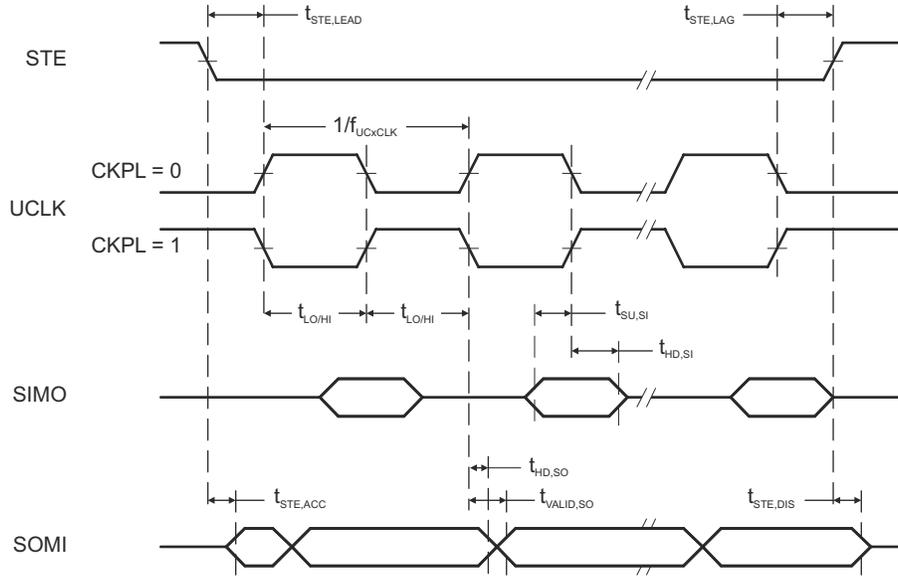
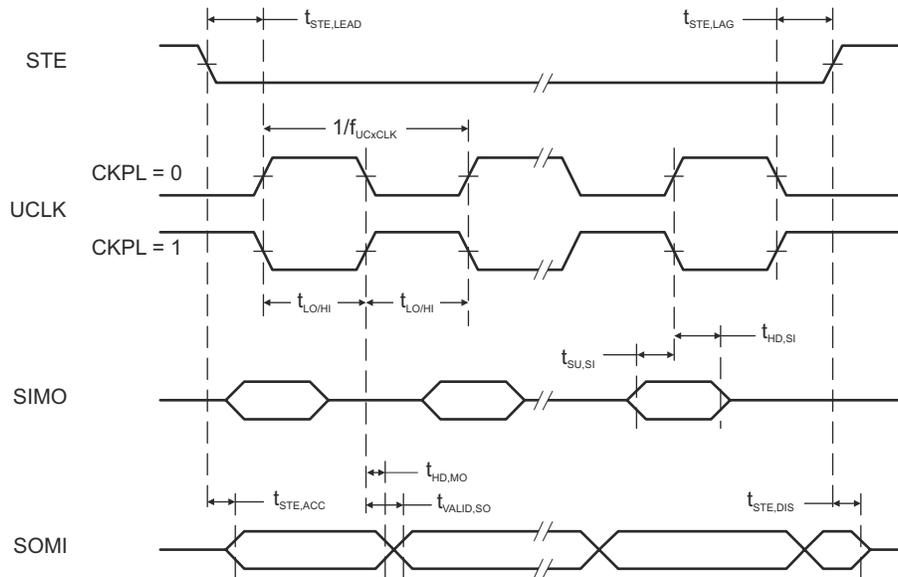

图 8-13. SPI Slave Mode, CKPH = 0
图 8-14. SPI Slave Mode, CKPH = 1
(see 图 8-13 and 图 8-14)
- (2) Specifies the time to drive the next valid data to the SOMI output after the output changing UCLK clock edge. See the timing diagrams in 图 8-13 and 图 8-14.
- (3) Specifies how long data on the SOMI output is valid after the output changing UCLK clock edge. See the timing diagrams in 图 8-13 and 图 8-14.